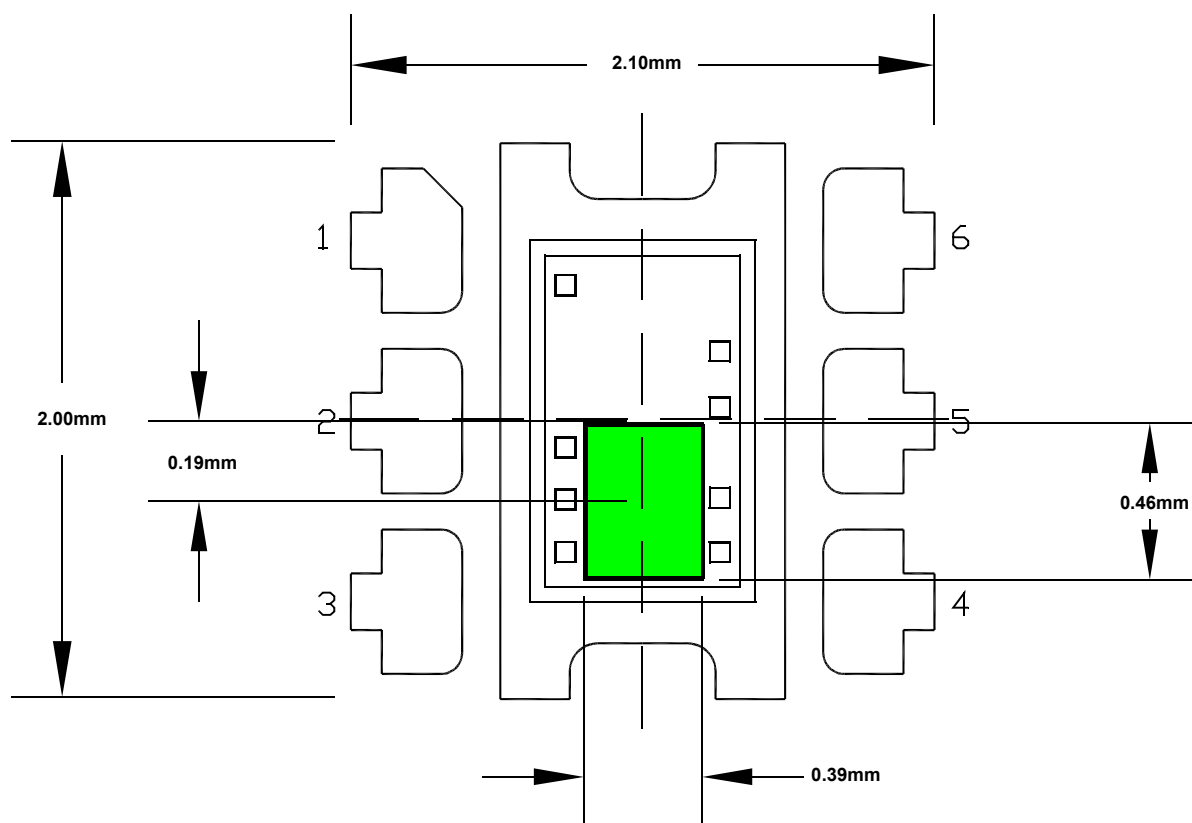

FIGURE 22. 6 LD ODFN SENSOR LOCATION OUTLINE
The green area in Figure 22 shows the optical sensor location outline of ISL29006, ISL29007 and ISL29008. Along the pin-out direction, the center line (CL) of the sensor coincides with that of the packaging. The sensor width in this direction is 0.39mm. Perpendicular to the pin-out direction, the CL of the sensor has a 0.19mm offset from the CL of packaging away from pin-1. The sensor width in this direction is 0.46mm.